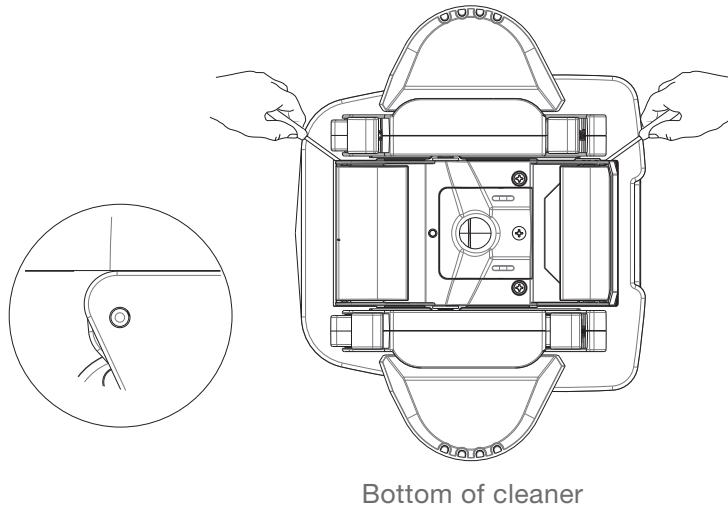

Fig. 12
- A. Remove the front and rear flaps from your StarzTruck automatic pool cleaner by inserting a small screwdriver between the flap and the lower body near the pivot point of the flaps (see Fig. 12).